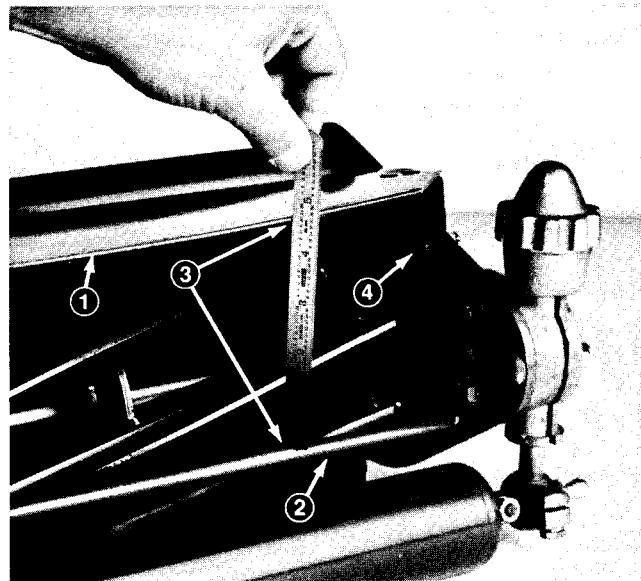

Figure 16
1. Set cutting unit in normal cutting position and measure distance from top of front crossbar to shield at each end of cutting unit (Fig. 16).
2. Height of shield from crossbar for normal cutting conditions should be  $4 \frac{3}{4}$  inches. Loosen cap-screws and nuts securing shield to each side-plate, adjust shield to correct height and tighten fasteners (Fig. 16).